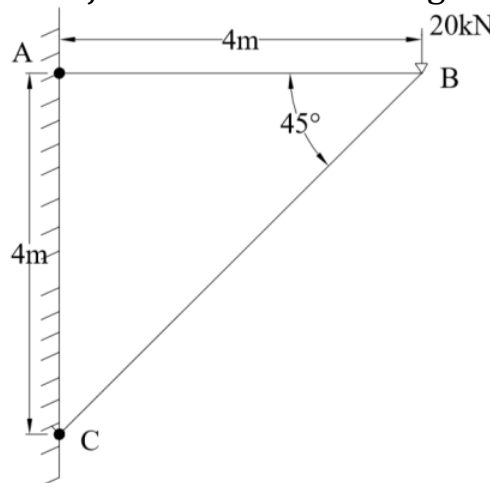

Fig.4
3. (a) Calculate the deflection of joint B as shown in Fig.4 by unit load method.